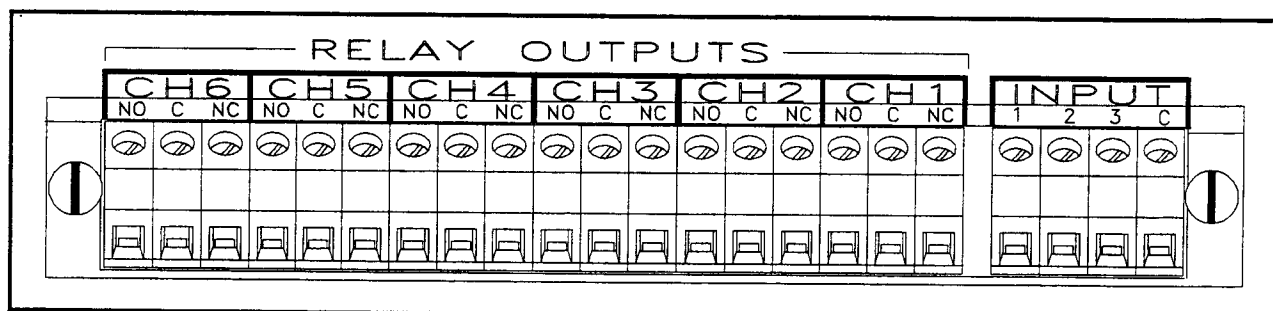

Figure 2-9 Digital I/O Connections
The Recorder may be equipped with an optional Digital Input Output Board which has six potential free Form C relay contacts and three opto-isolated digital inputs. A terminal block as shown in Figure 2-9 below, is provided for the six-alarm output **Potential Free Form C** connections: **normally open (NO)**, **common (C)**, and **normally closed (NC)**, and the three digital inputs which share a common. The relay contacts are capable of switching **250 VAC ~ at 1 Amp or 30 VDC at 1Amp**.